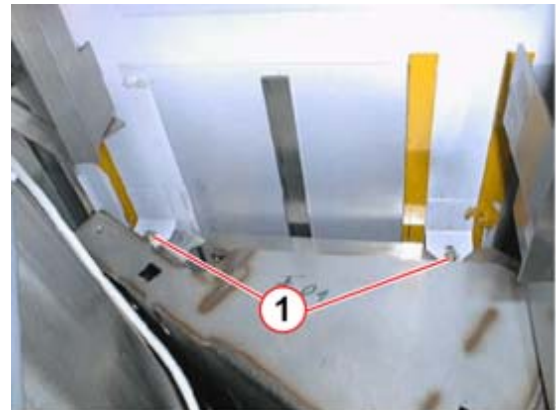

Fig. 2: Guide cover plate_remove
- Remove both guide cover plates with the two screws (1/Fig. 2 / p. 10) (access from the back).